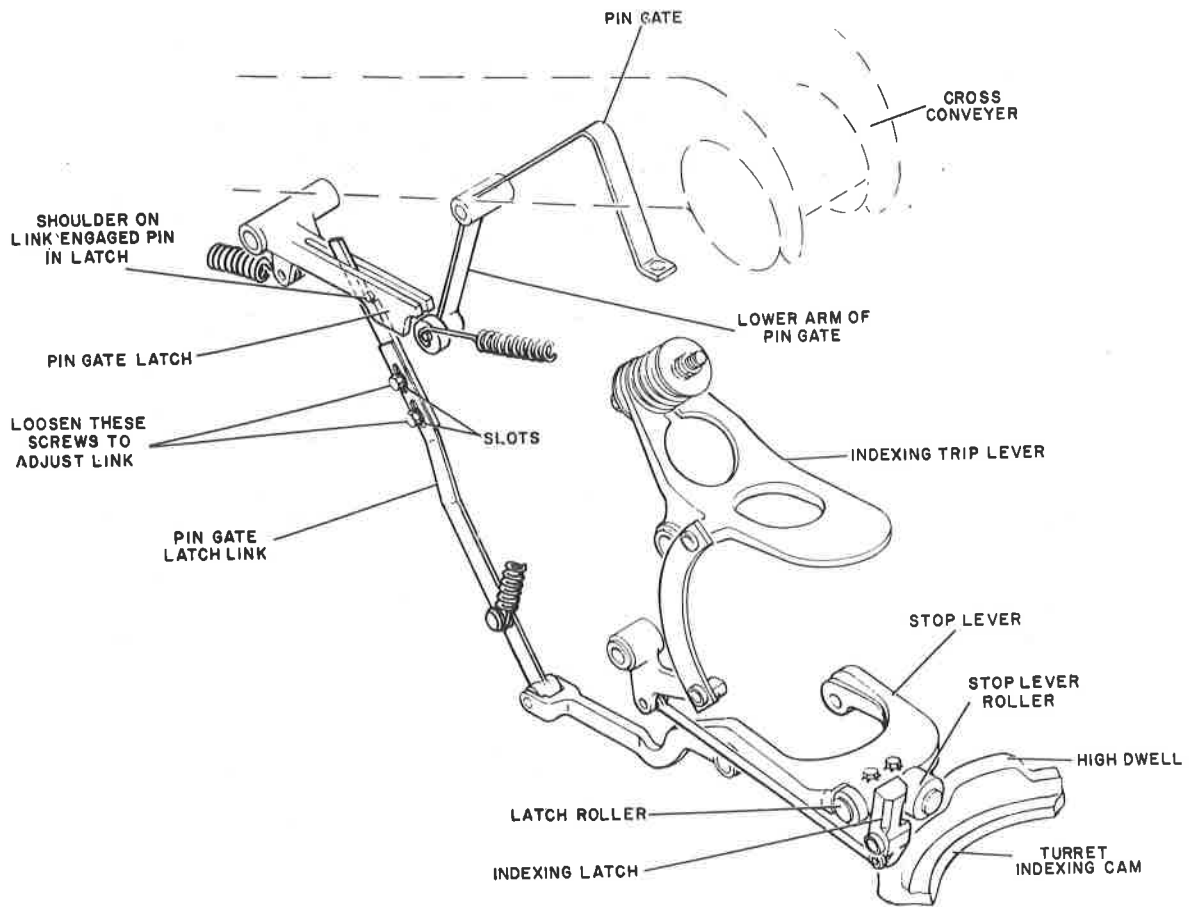

Figure 87. Pin Gate Adjustment
34. PIN GATE ADJUSTMENT. (FIGURE 87)
41. TURRET INDEX TRIP LEVER ADJUSTMENT. (FIGURES 87 & 94)